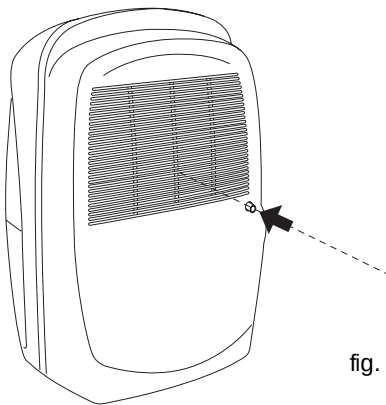

fig. 2
- 1) Drill the inside of the drain spout using a small drill bit. (Fig. 2).